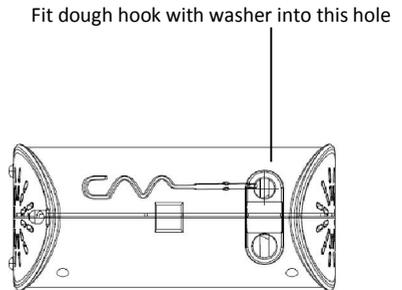

Fig.3
2. To fit the dough hooks insert the dough hook with the washer into the larger socket (see below) on the underside of the motor housing (fig. 3) and push firmly.